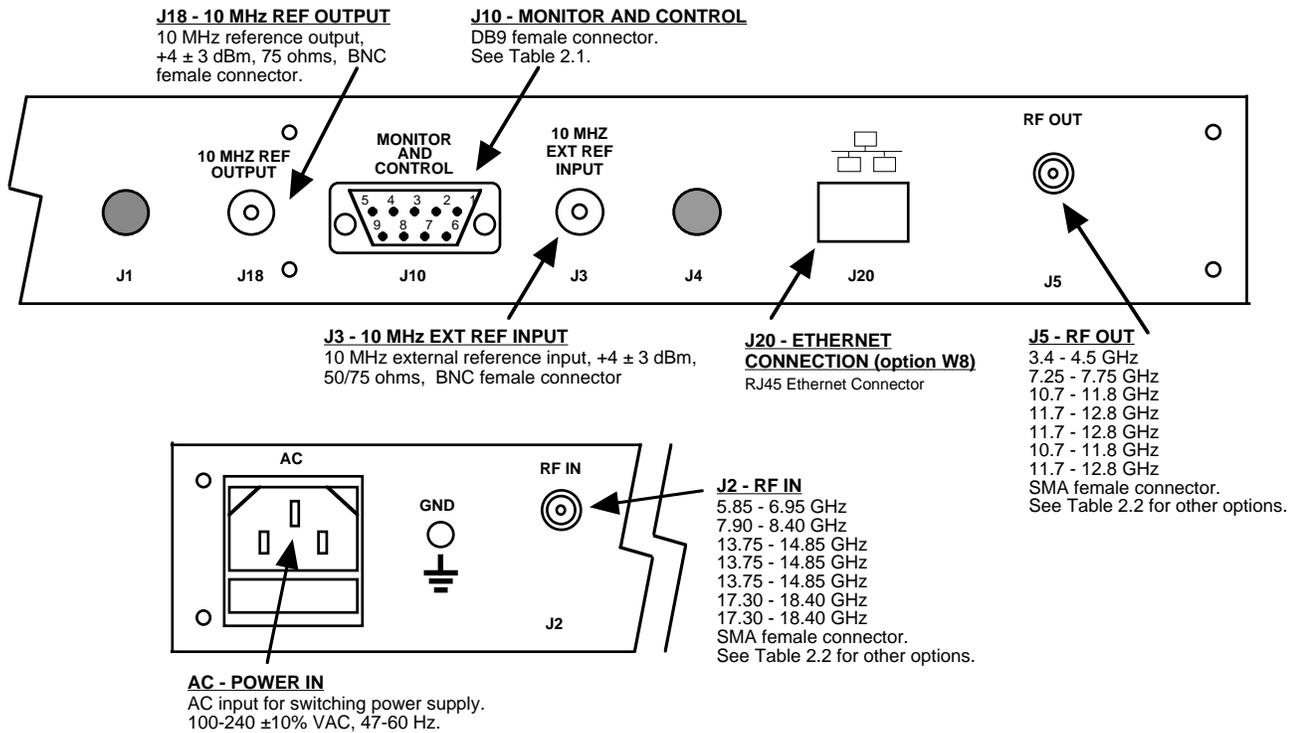

FIGURE 2.2 3116-T71 Rear Panel Inputs and Outputs
2.2 Rear Panel Input / Output Signals - Figure 2.2 shows the input and output connectors on the rear panel.
1. Connect a -30 dBm to -10 dBm signal to RF IN (Figure 2.2).